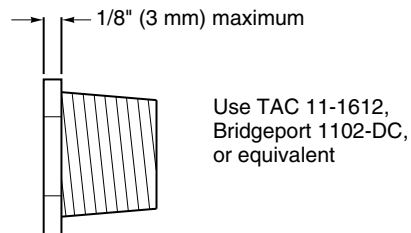
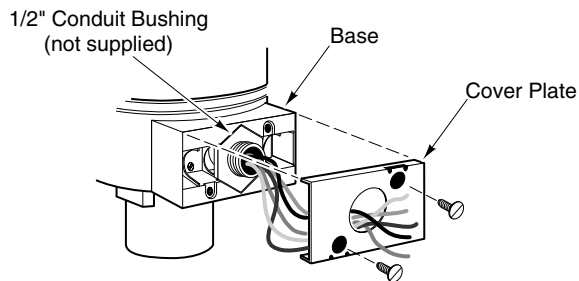

Figure-11 1/2" Conduit Bushing.
Figure-12 Conduit Bushing and Cover Plate Installation.
2. Slip the actuator's leads through a standard 1/2" conduit bushing (Figure-11, not supplied) and the knockout hole in the cover plate. Refer to Figure-12.
Note: As shown in Figure-12, the hole in the actuator's cover plate is also sized to accept both British standard M20 (20 mm) conduit connectors and 20 mm-to-PG16 adaptors for use with DIN PG16 connectors. (Follow the steps for installing the conduit box to the actuator.)